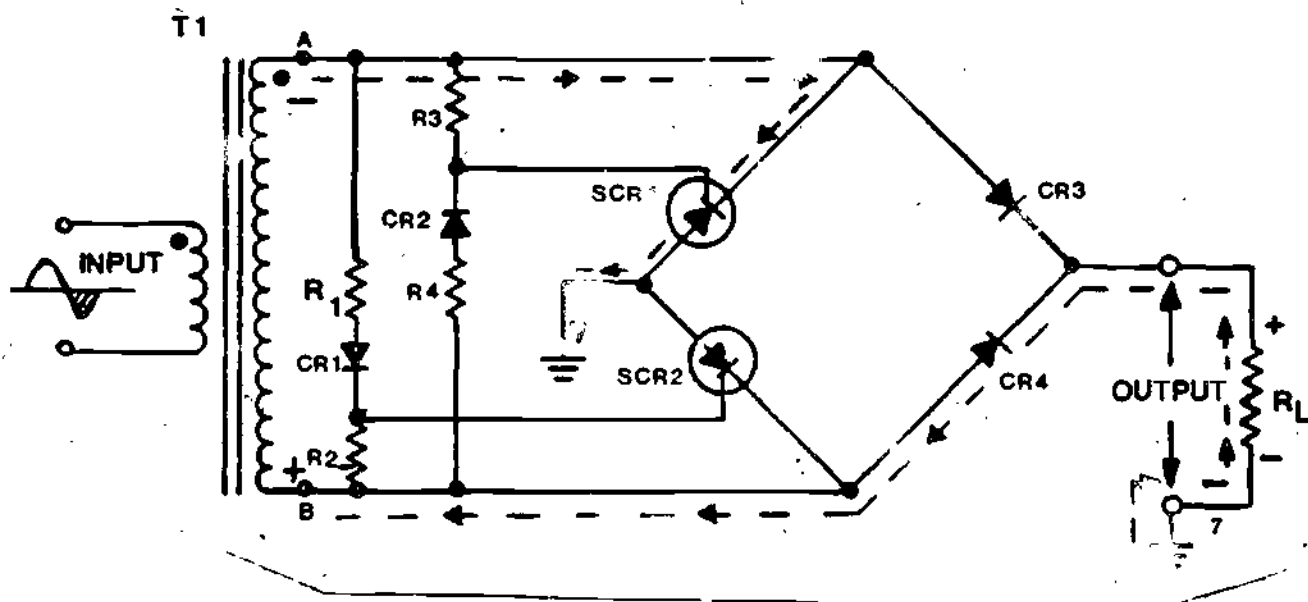

Figure 19
Refer to Figure 19 above for Frame 25.
24. Again refer to the schematic shown in Figure 19. To help you understand the operation of this SCR bridge rectifier, current paths have been indicated with broken lines. At such time as terminal A of T1 is positive, CR1 will be forward biased. This means that current flows from terminal B of T1 through R2, CR1 and R1 back to terminal A. No other current can flow until SCR2 has been gated or triggered. When the voltage drop across R2 rises to the firing potential for SCR2, the SCR conducts and current will flow from terminal B through SCR2 to ground. The current path to terminal A is thereby completed from ground on the bottom of RL and through CR3. This current path exists until the polarity of the voltage across the secondary reverses.